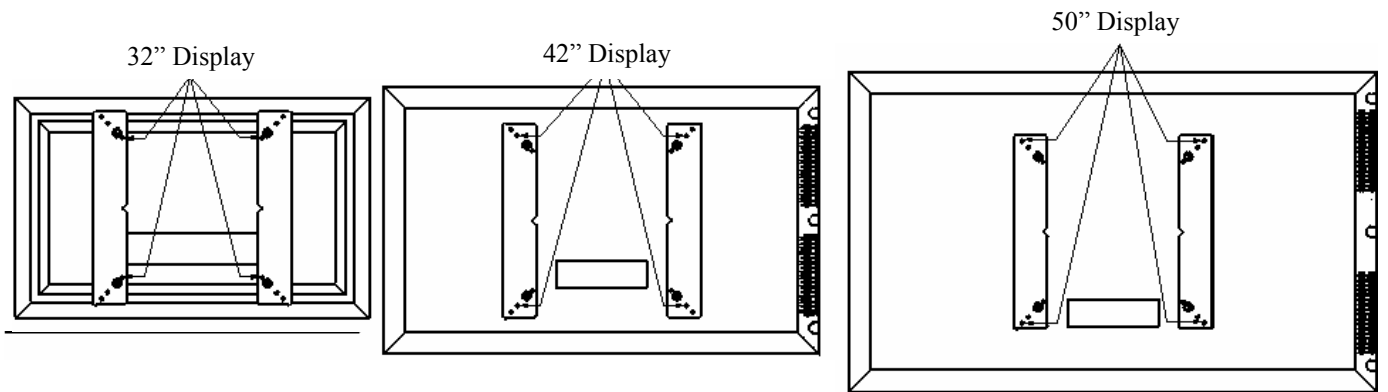

Figure 5. Bracket Attachment Location
4. Attach mounting bracket to the display (see Figure 5), as follows: